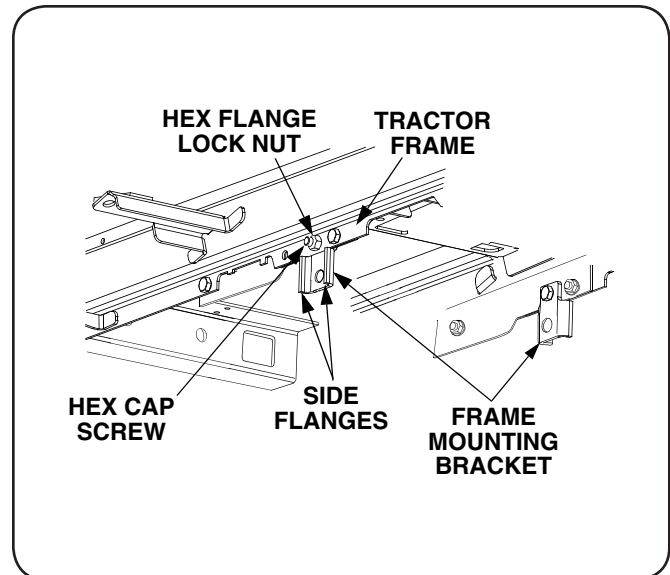

Figure 4-11
- b. **Series 2500 Tractors Mfg. Date K015 and After.** Looking beneath the front of both running boards, locate the forward most open hole in each side of the tractor frame. See Figure 4-11.